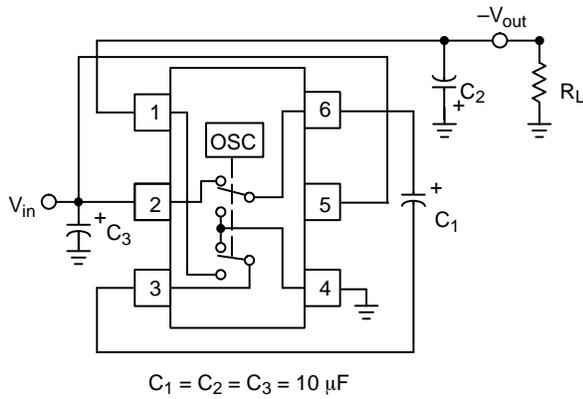

Figure 14. Test Setup/Voltage Inverter
**ELECTRICAL CHARACTERISTICS** ( $V_{in} = 5.0\text{ V}$ ,  $C_1 = 10\ \mu\text{F}$ ,  $C_2 = 10\ \mu\text{F}$ ,  $T_A = -40^\circ\text{C}$  to  $85^\circ\text{C}$ , typical values shown are for  $T_A = 25^\circ\text{C}$  unless otherwise noted. See Figure 14 for Test Setup.)
The most common application for a charge pump is the voltage inverter (Figure 14). This application uses two or three external capacitors. The  $C_1$  (pump capacitor) and  $C_2$  (output capacitor) are required. The input bypass capacitor,  $C_3$ , may be necessary depending on the application. The output is equal to  $-V_{in}$  plus any voltage drops due to loading. Refer to Tables 1 and 2 for capacitor selection. The test setup used for the majority of the characterization is shown in Figure 14.